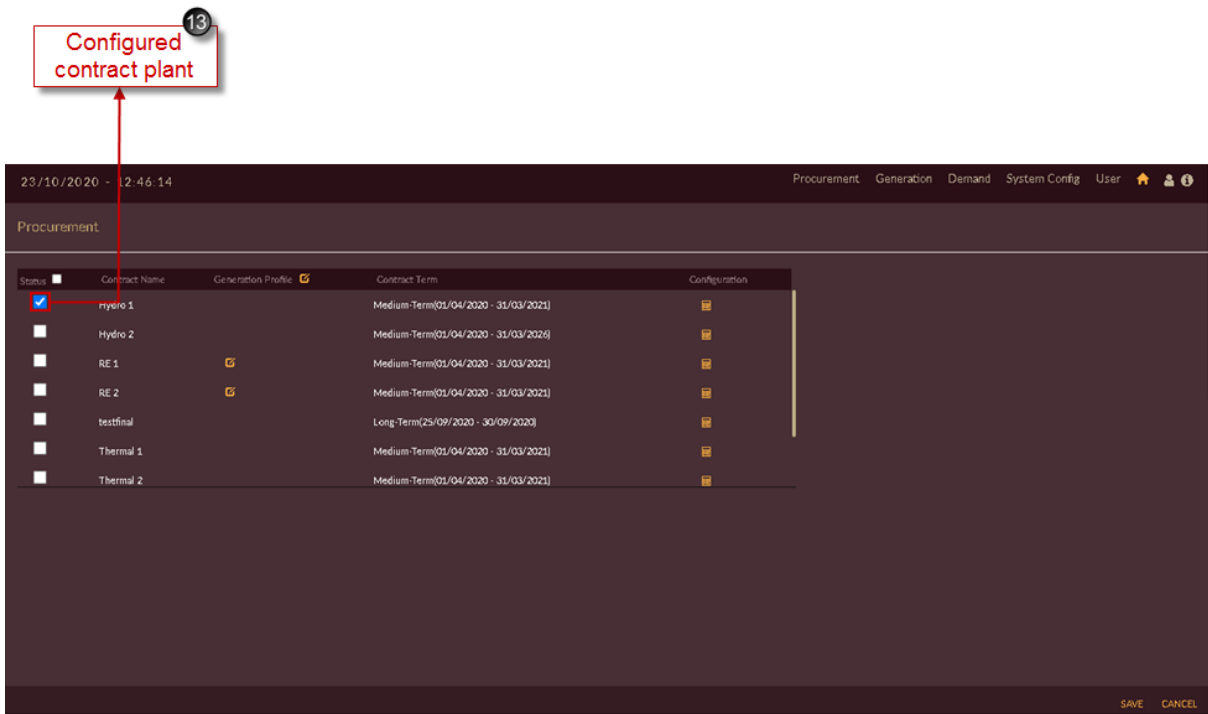

Figure 275. Successfully Configured Contract
13. Figure 275 shows configured Contract unit into the PPO Base case scenario. Blue tick indication appears for the contract unit which is configured or participating into the scenario for PPO studies.